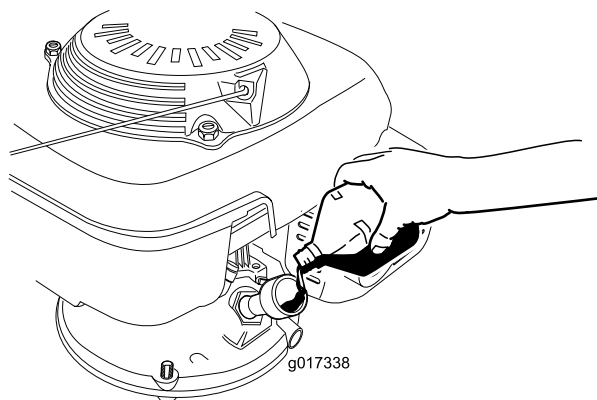

Figure 8
3. Carefully pour about 3/4 of the engine capacity of oil into the oil-fill tube (Figure 8).